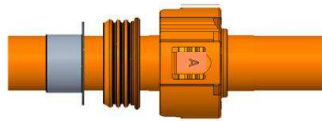

Figure 2: slide components onto cable before processing
Step 1/步骤一 In the order shown in figure 2, slide cover, single wire seal and shield sleeve onto cable sheath, keeping them out of crimping area.
按照图2所示的顺序，滑动保护盖，线缆密封圈和屏蔽套管到电缆护套上，使它们不在压接区域。